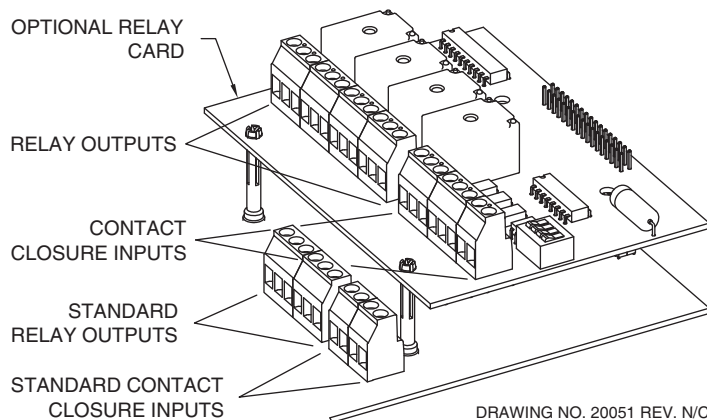

Figure 3-7 - Relay Output/Contact Closure Input Layout
The standard TMS2000W includes two (2) dry contact closure inputs and two (2) relay outputs as illustrated in Figure 3-7 below. Also shown is an optional 4 Input/4 Relay Output Card. An optional 8 Input/8 Relay Output Card or 16 Relay Output Card is available.